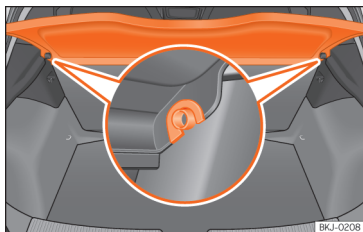

Fig. 112 In the luggage compartment: removing and fitting the shelf.
- Remove the rear shelf from the side supports »» Fig. 112 by pulling it upwards and then take it out.
- Insert the cover horizontally so that the “recess” fits onto the axis of the supports »» Fig. 112 and press down until it engages.